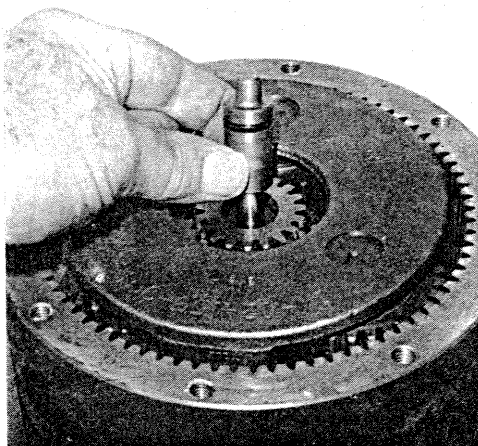

Figure 13 Assemble disconnect sleeve
**STEP 16** Assemble an "O" ring in groove of the disconnect plunger. Assemble plunger over end of input shaft and against thrust washer, (Figure 13).